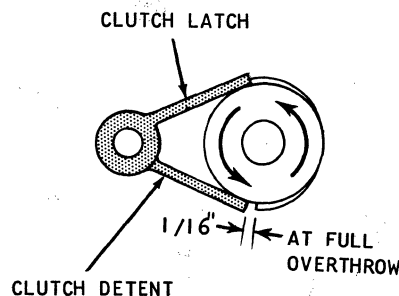

Figure 3-6. File Feed Clutch Adjustments
2. Hold split collar in this position and rotate detent gear to  $1/16''$  past detent position. Tighten screws in split collar. This adjustment should result in  $1/16''$  overthrow. See Figure 3-6.